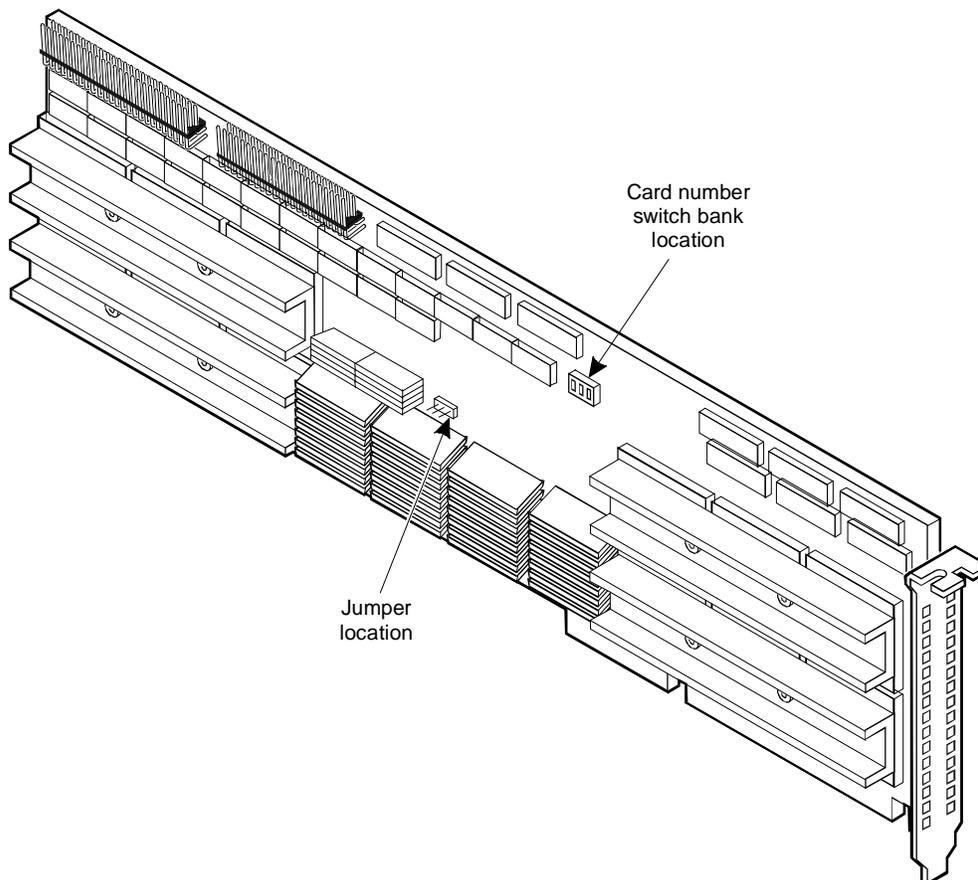
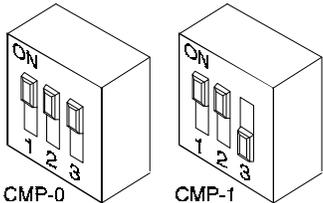

Figure 7-22. Companion (AYC7) Circuit Card
Figure 7-23. Switch Settings for the Companion Card
- AYC7 — see Figure 7-22
You must set one switch bank on the AYC7 circuit card. Figure 7-22 shows the location of the switches. Figure 7-23 shows the required switch settings for CMP-0 and CMP-1.
Figure 7-22 shows the location of the jumper on the AYC7 CMP circuit card. This jumper is preset at the factory. However, before you install the card, verify that it is set as shown in Figure 7-24.